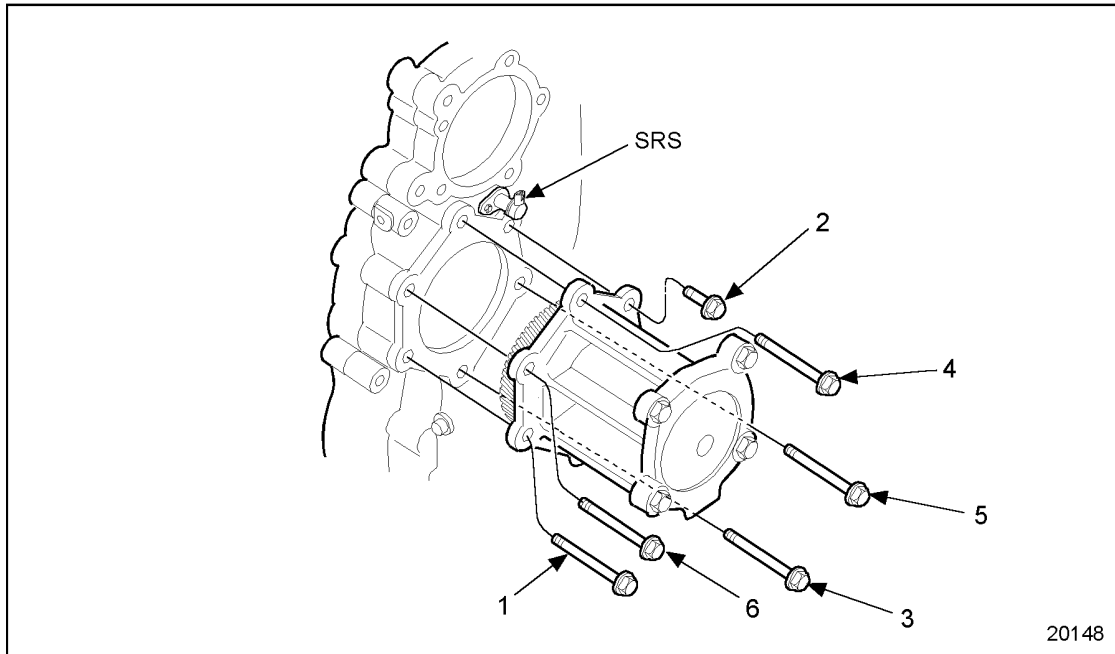

Figure 1-162 Gear Case Cover Bolt Torque Sequence (Left Rear)
- [f] Install the six bolts on the intake (left) side of the engine around the air compressor drive. Torque the bolts to 58-73 N·m (43-54 lb·ft), using the sequence. See Figure 1-162. Install the SRS to the gear case; refer to Section 2.20.3.